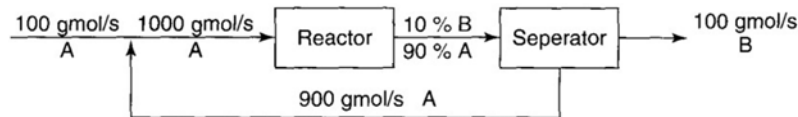

Figure 12.3 A simple recycle system with chemical reaction.
- ☒ The most common application of recycle for systems involving chemical reaction is the recycle of reactants, an application that is used to increase the overall conversion in a reactor. Figure 12.3 shows a simple example for the reaction
If you calculate the **extent of reaction** for the **overall process** in Figure 12.3 **based on B**
For the simple recycle reactor in Figure 12.3, **the overall conversion is**